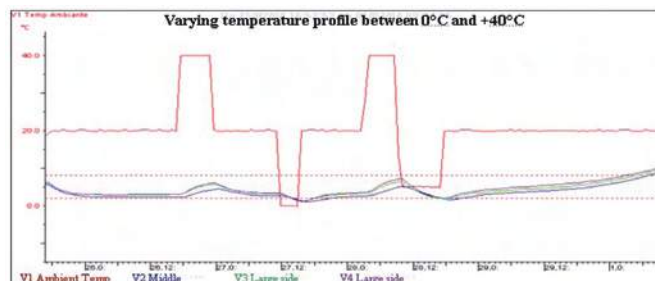

Fig. 4: Performance test under a varying temperature profile between 0°C and +40°C
- This test showed excursions out of the range +2/+8°C, at the extreme segments (See Fig. 4). The coefficient of heat transfer cannot predict these excursions, because the three K values are based on a constant ambient temperature (the average of the temperature profile).